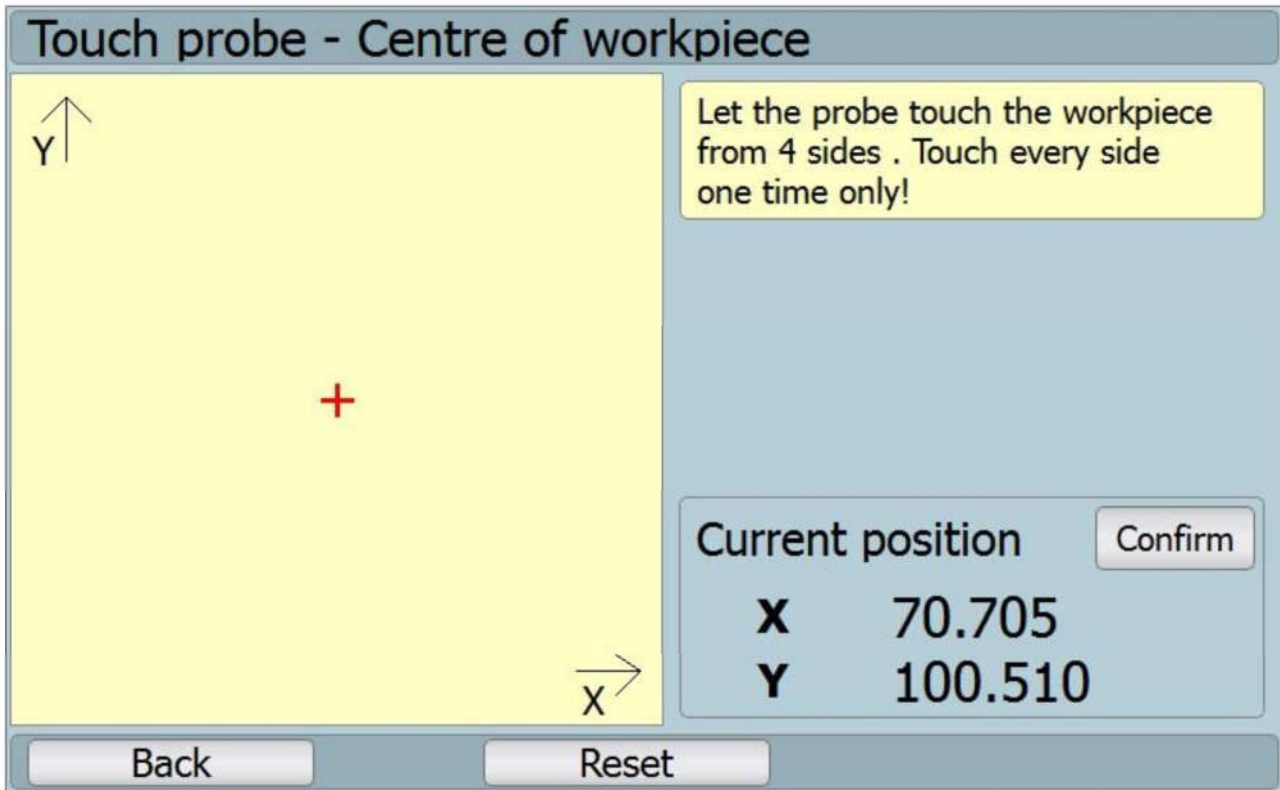

Fig. 48: Touch probe – workpiece centre
- ⑩ It is used for finding the rectangular (square) workpiece entered by means of four points on the touch probe.
- ⑩ After the probe reaches the required coordinate, press button „Potvrdit“ (confirm) (see fig. 48: Touch probe – workpiece centre) the first point is drawn in the scene.